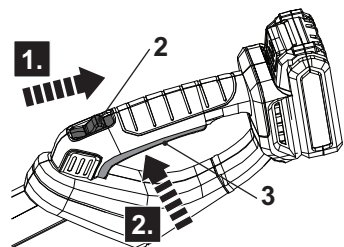

Fig. 26
1. Ensure the hedge trimmer blade (17) or the saw chain (20) does not touch any objects. Remove the blade cover (16) or the guide bar cover (18) from the hedge trimmer blade (17) or the saw chain (20) before switching the product on.
2. Hold the product with one hand on the soft grip (7a) of the rear pole (7) and the other hand on the rear handle (1). Do not start the product while handling it with one hand.
3. Pull back the lock-off button (2) and hold it in position (Fig. 26, step 1).
4. Squeeze the on/off switch (3) to switch the product on (Fig. 26, step 2). Release the lock-off button (2) afterwards.
5. Release the on/off switch (3) to switch the product off.